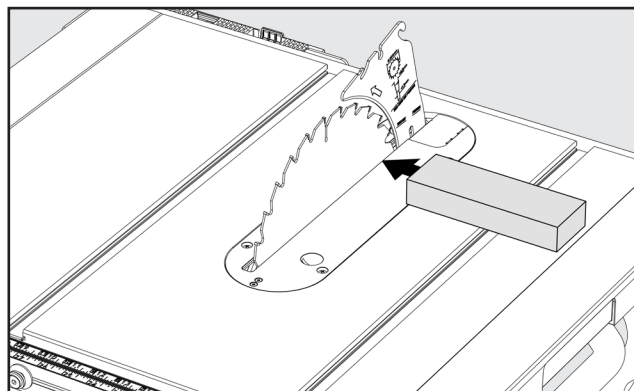

FIGURE 26
5. If the rear of the blade was too close to combination square, place a block of wood on the right side of the blade. Lightly tap with a small hammer or rubber mallet to achieve the correct parallelism adjustment. See Figure 26.